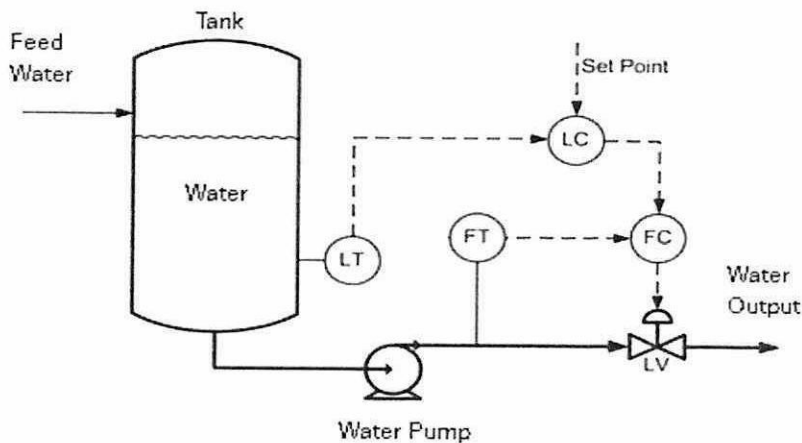

Figure Q1.1 : Water level Piping and Instrumentation Diagram (P&ID).
- (b) List at least **FOUR (4)** industries that applied process control. (4 marks)
- (d) The Piping and Instrumentation Diagram (P&ID) for controlling water level of the tank by controlling water output used by ManirWater Sdn. Bhd is as shown in **Figure Q1.1** where: